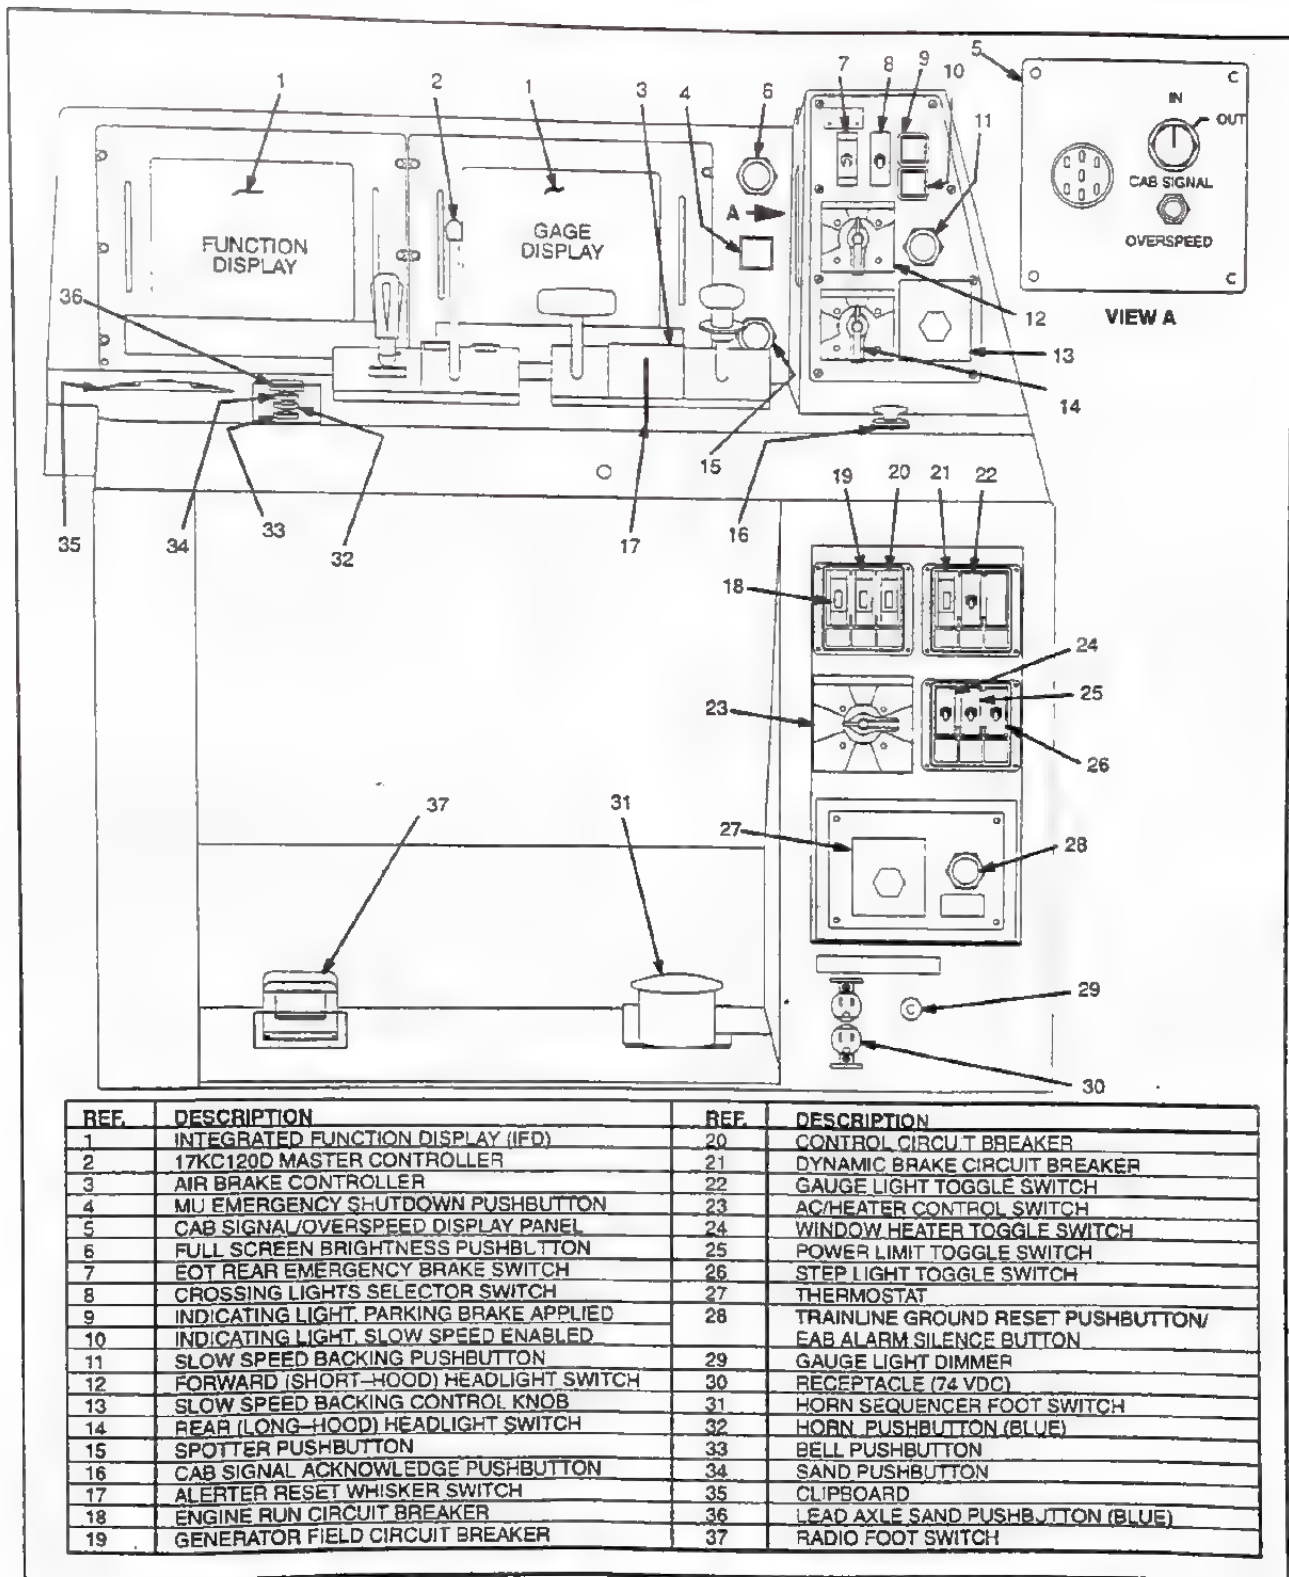

FIG. 5. CONTROL CONSOLE RIGHT (ENGINEER'S POSITION). E-42564.
All devices, manual and visual, required by the engineer to set-up and operate the locomotive are located near the engineer's position. Most of the devices are located on the Control Consoles (Figs. 5 and 7) and the Engine Control panel (Fig. 12).
This screen (Item 1, Fig. 5) replaces the former analog speedometer, ammeter, air and pressure gauges mounted on the control console. The Operation Screen also replaces the functional controls and displays of the bolt-on boxes covering End Of Train, Alerter and Cab Signal Systems. The screen will show both analog and digital readouts of Speed, Load and air pressure data. The air pressure data covers Main Reservoir, Equalizing Reservoir, Brake Pipe, Brake Cylinder, End of Train and Brake-Pipe Reduction. Digital readouts of fuel remaining, cruise set speed and HEP volts/amps are centrally located.
NOTE: Numbers in parentheses () refer to items found on Figure 5 of this publication unless noted otherwise.
Two IFDs (1) are located on the Control Console Right (Fig. 5). One is used to monitor locomotive performance and perform diagnostic testing, while the other replaces the former analog gauges.